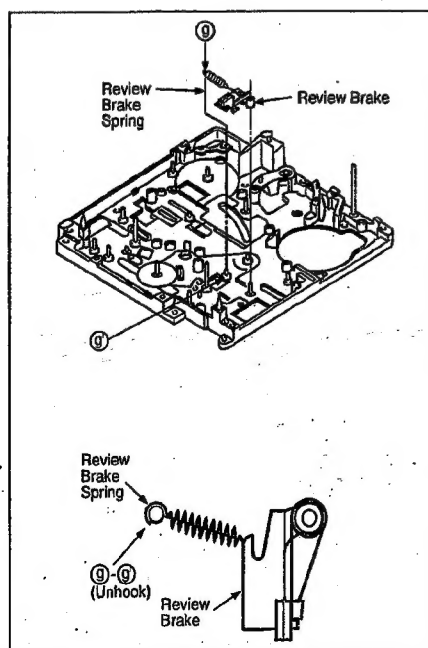

Fig. M16
- Fig. M16 Unhook the hooking portion (g) and (g') of the Review Brake Spring and remove Review Brake.